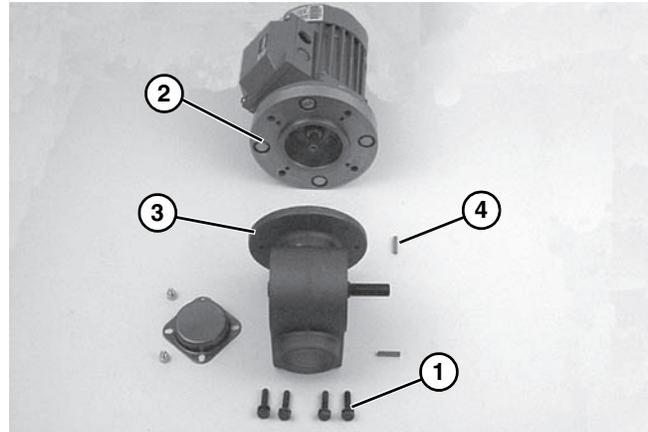

Figure 32
4. Remove four bolts (Figure 32, item 1). Detach motor (Figure 32, item 2) from gear reducer (Figure 32, item 3). Retain motor output shaft key (Figure 32, item 4).